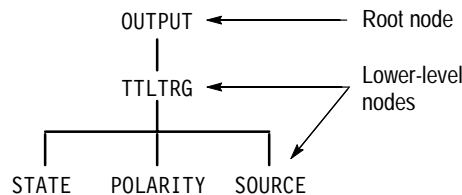

Figure 1–1: Example of SCPI subsystem hierarchy tree
The SCPI language is based on a hierarchical or tree structure (see Figure 1–1) that represents a subsystem. The top level of the tree is the root node; it is followed by one or more lower-level nodes.
In Figure 1–1, OUTPUT is the root node and TTLTRG, STATE, POLARITY, and SOURCE are lower-level nodes. To create a SCPI command, start with the root node OUTPUT and move down the tree structure adding nodes until you reach the end of a branch. Most commands and some queries have parameters; you must include a value for these parameters. If you specify a parameter value that is out of range, the parameter will be generally set to a default value. The
For example, OUTPUT:TTLTRG1:STATE ON is a valid SCPI command created from the hierarchy tree in Figure 1–1.
- Creating Queries** To create a query, start at the root node of a tree structure, move down to the end of a branch, and add a question mark. OUTPUT:TTLTrg:STaTe? is an example of a valid SCPI query using the hierarchy tree in Figure 1–1.